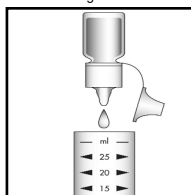

Figure 2
2. Add 4 drops of A-2800 Acidifier Solution (fig. 2). Stir to mix the contents of the cup.